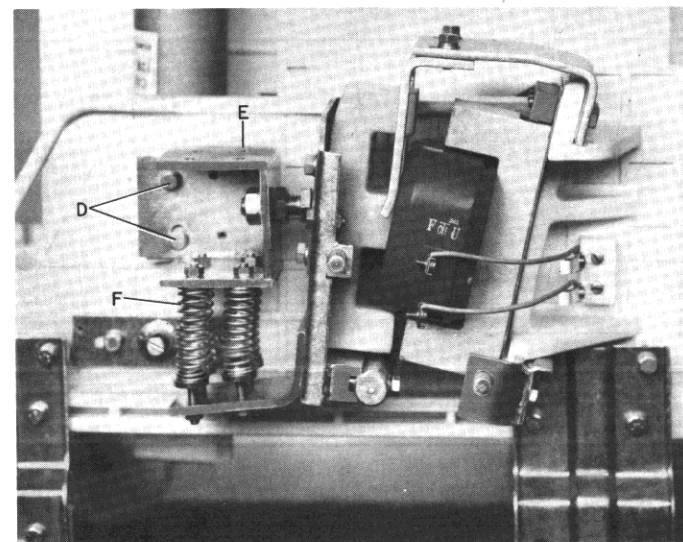

Figure 6. Coil replacement Step 3 — removal of armature stop — mounting bolts, stop bracket, and return springs
3. Remove (2) 5/16 - 18 armature stop mounting bolts ("D" Figure 6) and remove armature stop bracket and return springs ("E" and "F" Figure 6).